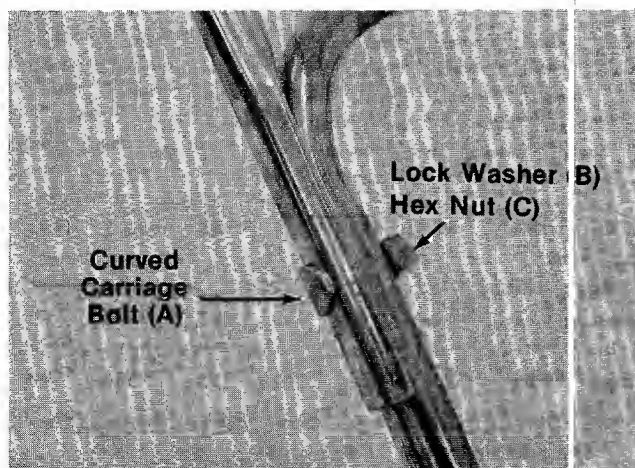

FIGURE 3.
5. Place upper handle in position over lower handle. Control housing should be on the left side of the handle. Secure upper handle with two curved head carriage bolts (A), lock washers (B) and hex nuts (C). See figure 3.